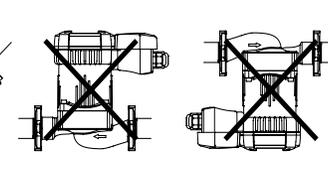

FIG. 2 Mounting the Armstrong Compass H
- 2 Install the pump with the motor shaft horizontal (see FIG. 2).